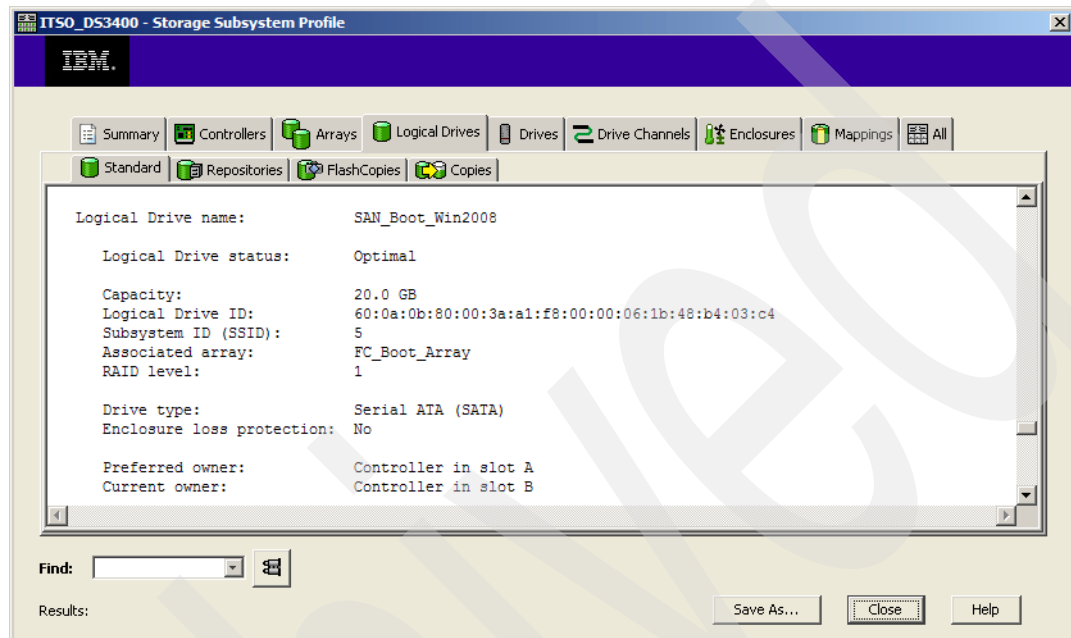

Figure 27-43 Boot volume owner - Controller B
3. After the cable is unplugged, the Windows 2008 operating system will pause until the boot volume is failed over to the backup path, in our example, Controller B, as shown in Figure 27-43.